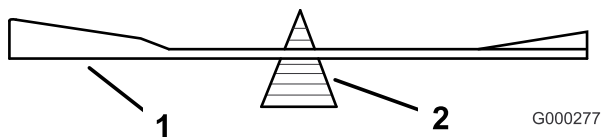
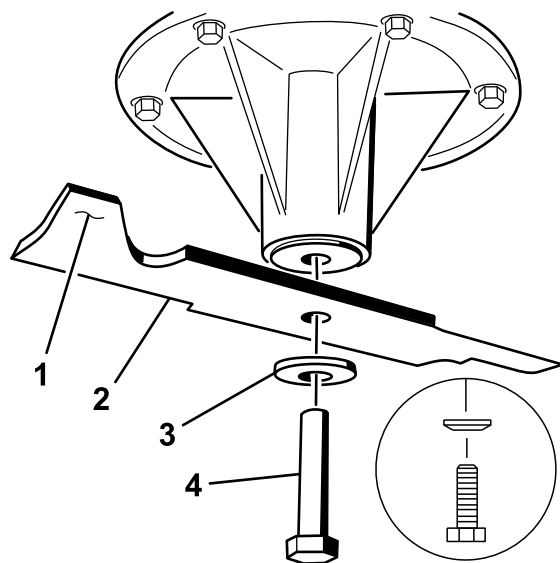

Figure 78
Figure 79
2. Check the balance of the blade by putting it on a blade balancer (Figure 78). If the blade stays in a horizontal position, the blade is balanced and can be used. If the blade is not balanced, file some metal off the end of the sail area only (Figure 79). Repeat this procedure until the blade is balanced.
1. Install the blade onto the spindle shaft (Figure 79).
2. Install the spring disk and blade bolt. The spring disk cone must be installed toward the bolt head (Figure 79). Torque the blade bolt to 85-110 ft-lb (115-150 N-m).